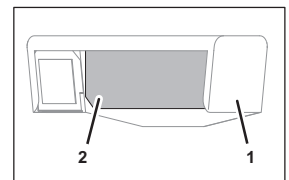

Fig. 30
- Remove the Plexiglas sheet (Fig. 30/2) from the hood (Fig. 30/1).